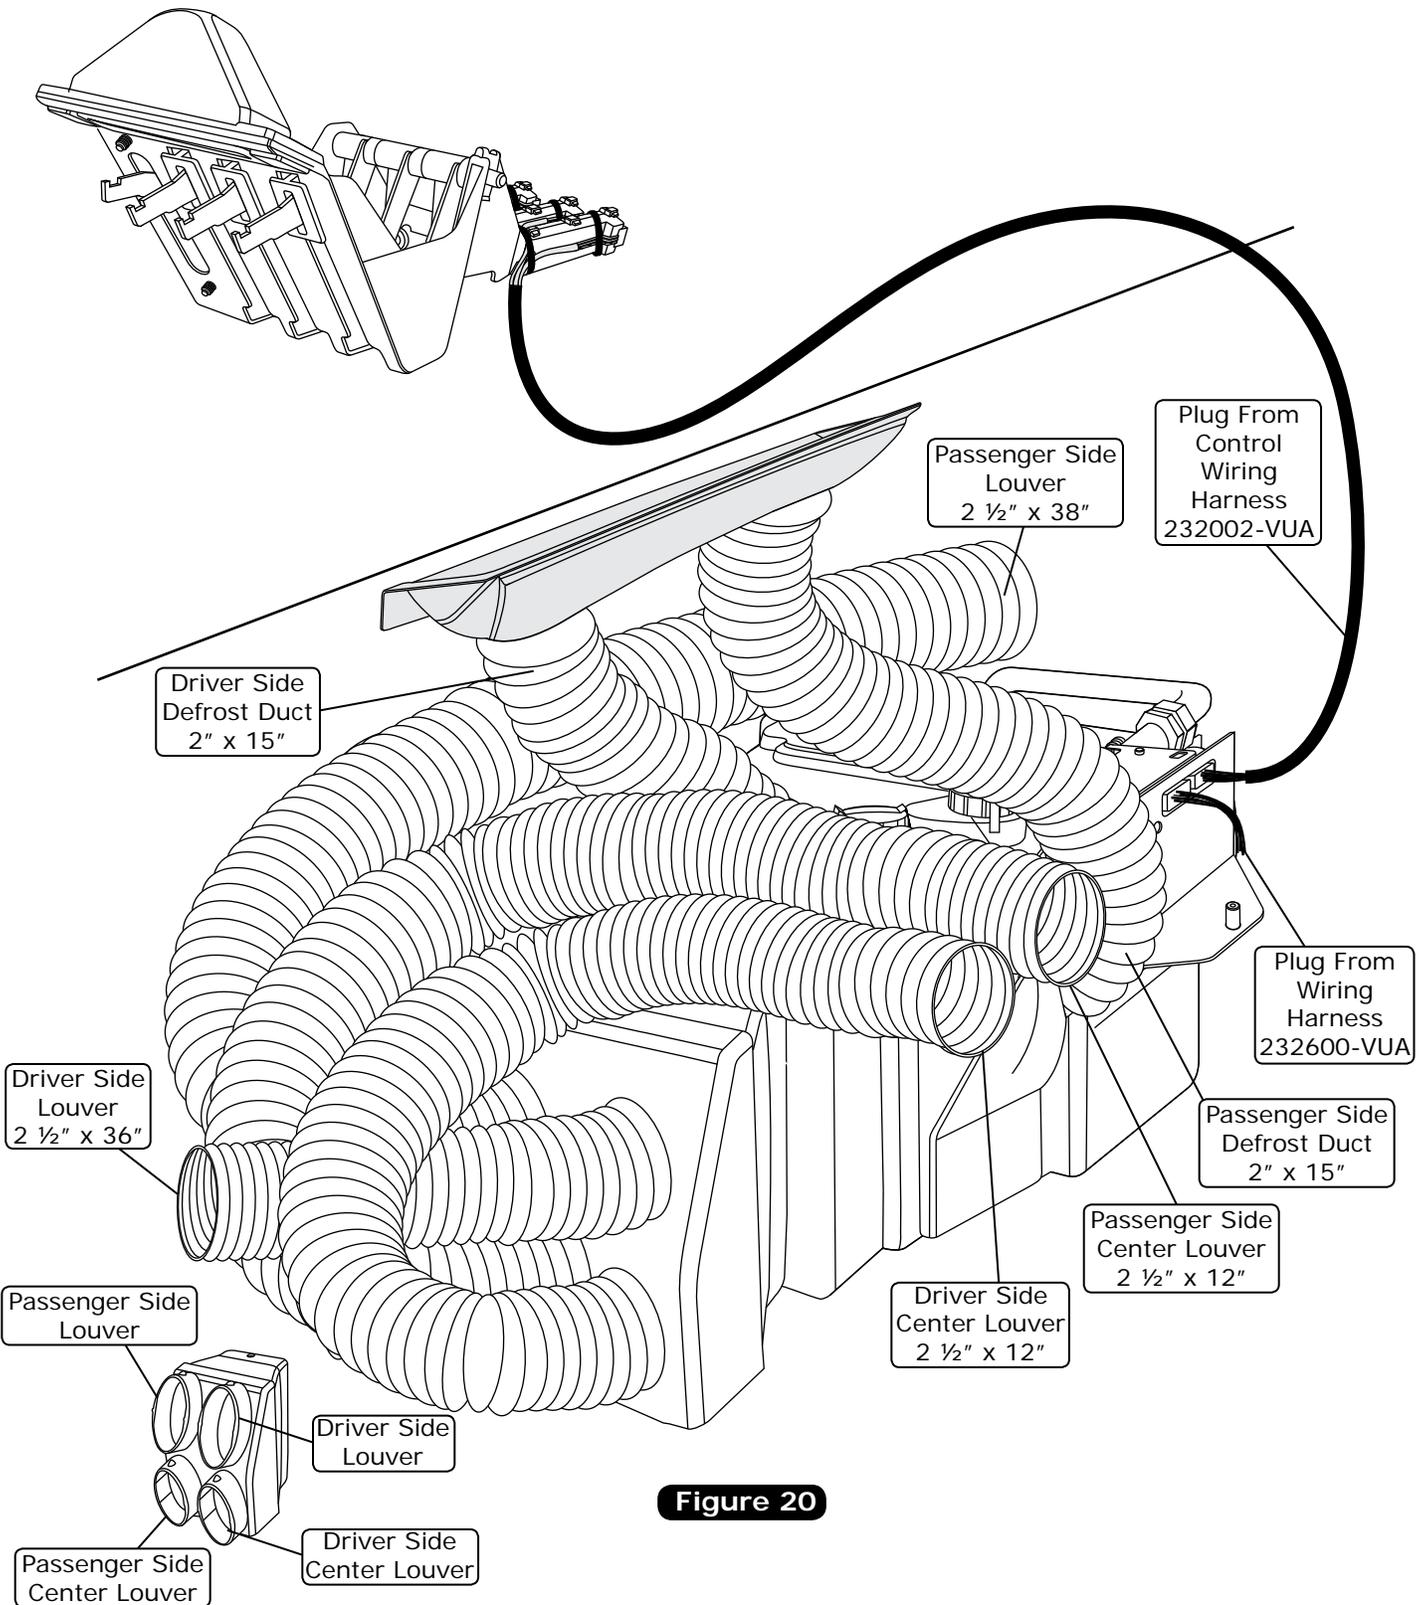

Figure 20
1. Install duct hoses as shown in Figure 20, Page 18.
4. Plug the wiring harnesses into the ECU module on the sub case as shown in Figure 20, Page 18. Wire according to wiring diagrams on Pages 20 & 21.